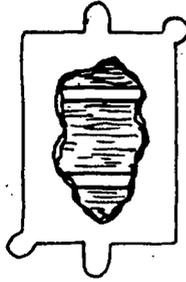

FIGURE 2
- F. Pencil around box using full lath as center point (Figure 2)